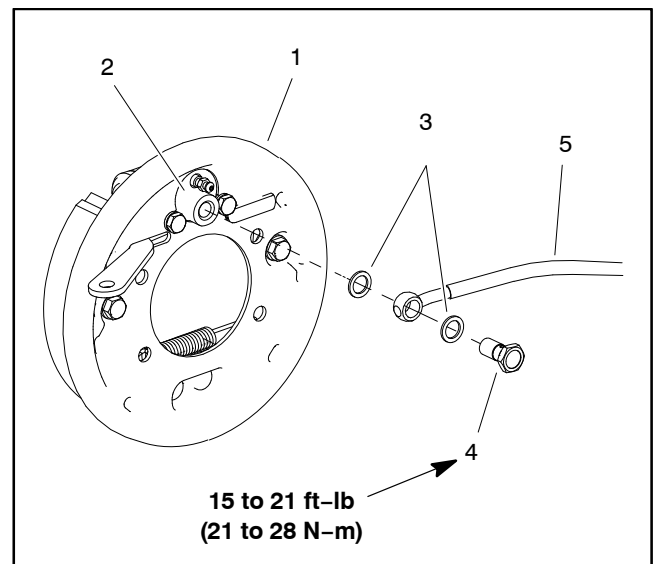

Figure 30
B. Clean hydraulic brake line area of brake assembly to prevent contamination (Fig. 30). Loosen and disconnect brake line from wheel cylinder. Plug brake line and position it away from brake assembly. Discard two (2) banjo washers.
C. Remove four (4) socket head screws and flange nuts that secure the brake assembly to the transaxle.
1. Position brake assembly to the transaxle. Secure backing plate of the brake assembly to the transaxle with four (4) socket head screws and flanged nuts. Torque screws to **20 ft-lb (27 N-m)**.
2. Position new banjo washer on each side of brake line fitting (Fig. 30). Insert banjo bolt into fitting and thread into wheel cylinder. Torque banjo bolt from **15 to 21 ft-lb (21 to 28 N-m)**.